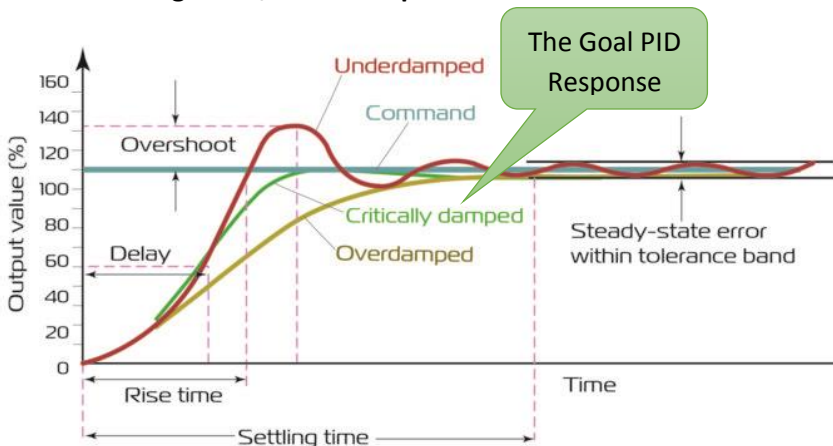

Figure 7: Stepped Response diagram.
increasing P-gains until you see sharp bounce-back. For LOS or FPV you really need to listen for it vs. seeing it (it is so fast). It is easy to visualize however in blackbox (BBL). You can set your D-gains to the same number for Pitch and Roll based on the noise floor after your filtering setup in Step #1. This is subjective based on how noisy you want your D-term signal to be to the PID Sum. Best advice is 30’s or 40’s for a 4S 5-in quad. For 6S 5-in quad could be down in 20’s and 30’s. For a brushless whoop, more like 60’s or 70’s. **You want to keep raising P-gains until you start to get overshooting based on sharp stick inputs and then back it down a little to get the “Critically damped” stepped response (see Figure 7).** Again, it is easiest to listen for it LOS or FPV. To see it check out a BBL.
As we are doing the flips, rolls, and half rate moves (as show in the above video) we are drawing out the Stepped Response in the PID controller. **THIS IS HOW YOU TUN A PID CONTROLLER; period!** See Figure 5 for how the different terms impact the quads performance and Figure 7 for a description of what a “Critically damped” Stepped Reponses looks like.
**THE KEY** is to have the right balance of P and D term to get a “Critically damped” Stepped Response (see Figure 7). The CLI paste in Step #2 above helps us isolate P & D gains **to find the perfect balance!**
Figure 7 outlines the above terms. As we are doing flips and rolls we are changing the “Command” (what we know as the Setpoint in the quad world [a.k.a. the sticks]), causing the PID loop to react so we can see how it manages the change (the Stepped change Response). We want to do this with both full rate and half rate moves to see how it manages these two things to optimize the tune.
**"Overshoot":** is when you induce a change the desired roll, pitch or yaw rotation rate and the quad moves to match your new commanded rate (in deg/sec) but overshoots the target. This is also known as "bounceback" when referred to as motion seen in the FPV feed, LOS, or in blackbox logs at the end of sharp flip or roll. So the term "bounceback" is the quad overshooting the commanded change in motion and hence has to "bounce back" to the commanded rate. Looking at Figure 7 above, overshoot is a sign of an "Underdamped" PID controller; not a good PID tune.
**"Bounceback":** is the quad doing a small shutter (or shake) at the end of a sharp flip or roll. You can see bounceback in your FPV feed, HD footage or blackbox log. It is typically the quad going past the desired roll or flip rate (Setpoint) and bouncing back to the Setpoint. Looking at Figure 7 above, bounceback is a sign of an "Underdamped" PID controller; not a good PID tune.
- If the quad seems to stop short of the Setpoint and then bounce further to hit the Setpoint (rare), that means your P/D Balance is too low (see Figure 7 – Overdamped condition). Either reduce D-term or increase P-term.